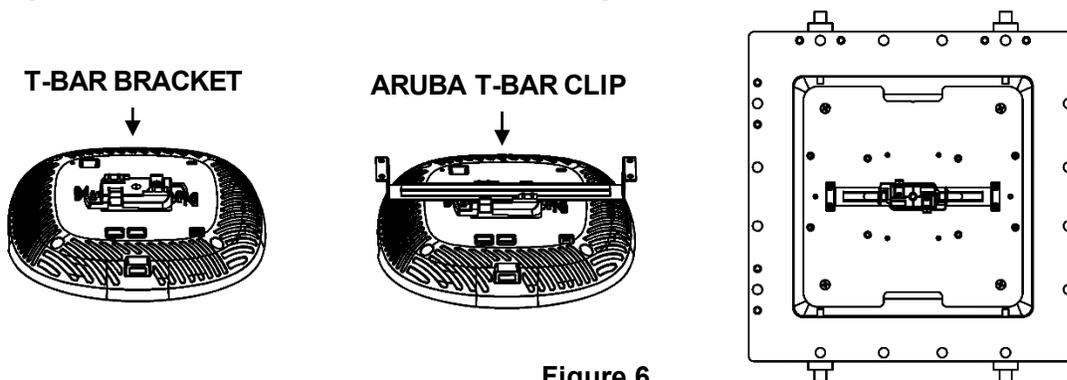

Figure 6.
**Older Aruba Access Points / T-Bar Mountable Access Points-** Previous generations of Aruba access points use Aruba supplied snap-on T-bar clip. Attach snap-on T-bar clip to the AP and then clip to the T-bar bracket included with the enclosure. Mount the T-bar to the backplate with the included QTY (4) screws. Slide the AP along the T-bar for access to the screw holes. See Figure 6.